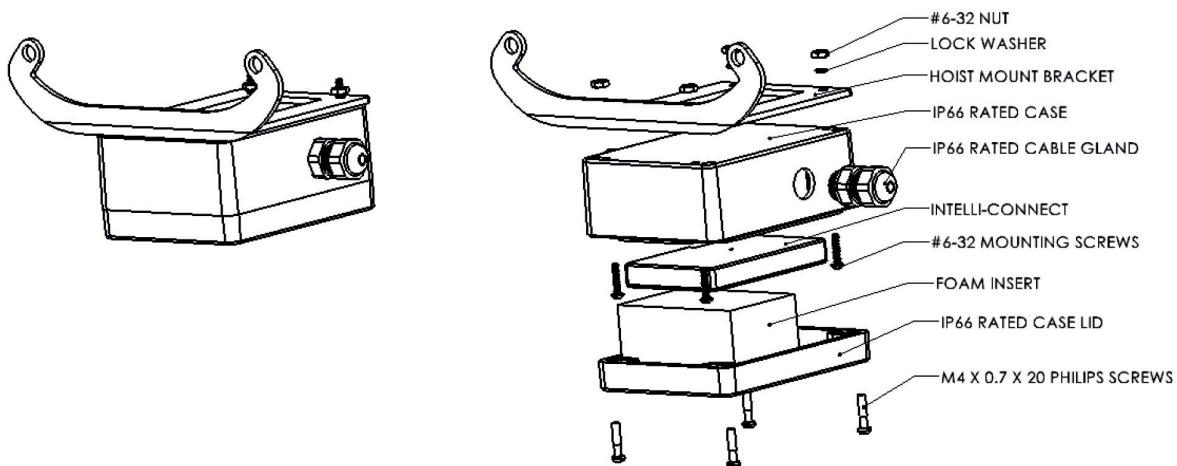

Figure 1: Pre-assembled Intelli-Connect Mobile Kit
Figure 1 shows the V1 pre-assembled contents of the Intelli-Connect Mobile hardware kit (ethernet cord assembly and 2 replacement end cover bolts with O-ring and washer replacement as well not shown).
- Bring the assembled Intelli-Connect Mobile kit box/ bracket from **Figure 1** close enough to the hoist to plug the ethernet cord into the VFD and follow **Figure 4** and **Figure 5** for the optimal cable routing inside the hoist. A small amount of cable slack should exist between both cable glands, as shown in **Figure 6**.